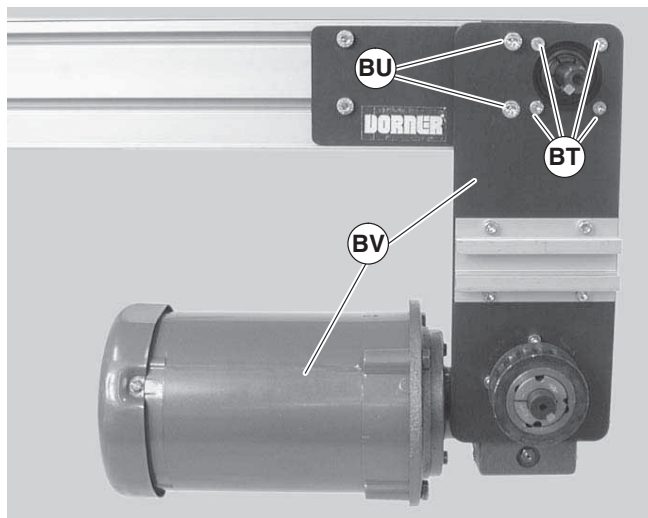

Figure 53
- e. Remove four (4) M5 mounting screws (Figure 53, item BT) and two (2) M8 mounting screws (BU).
- f. Remove gearmotor and mounting plate assembly (Figure 53, item BV).